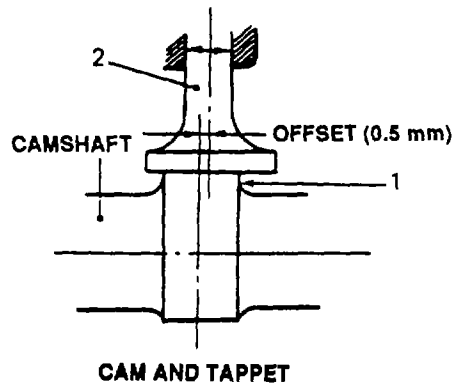

Figure 6-13. Cam and Tappet
- f. Refer to Figure 6-13. Check the condition of the cam lobes (1). The tappet is offset with regard to the cam center and rotated during operation to prevent excess wear. Replace the camshaft and tappets if badly worn.